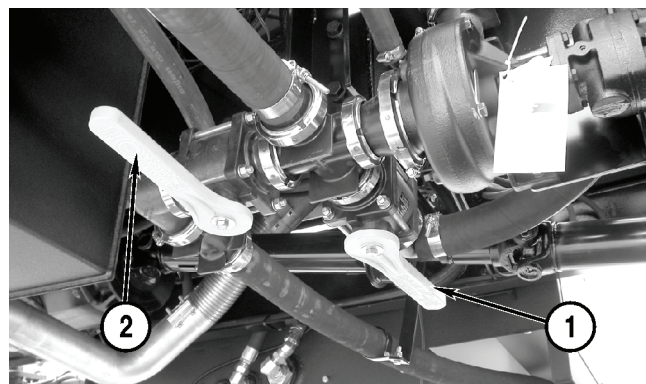

Figure 4-41
2. Close the product valve (**Figure 4-41, 1**).
3. Open the rinse tank valve (**Figure 4-41, 2**).